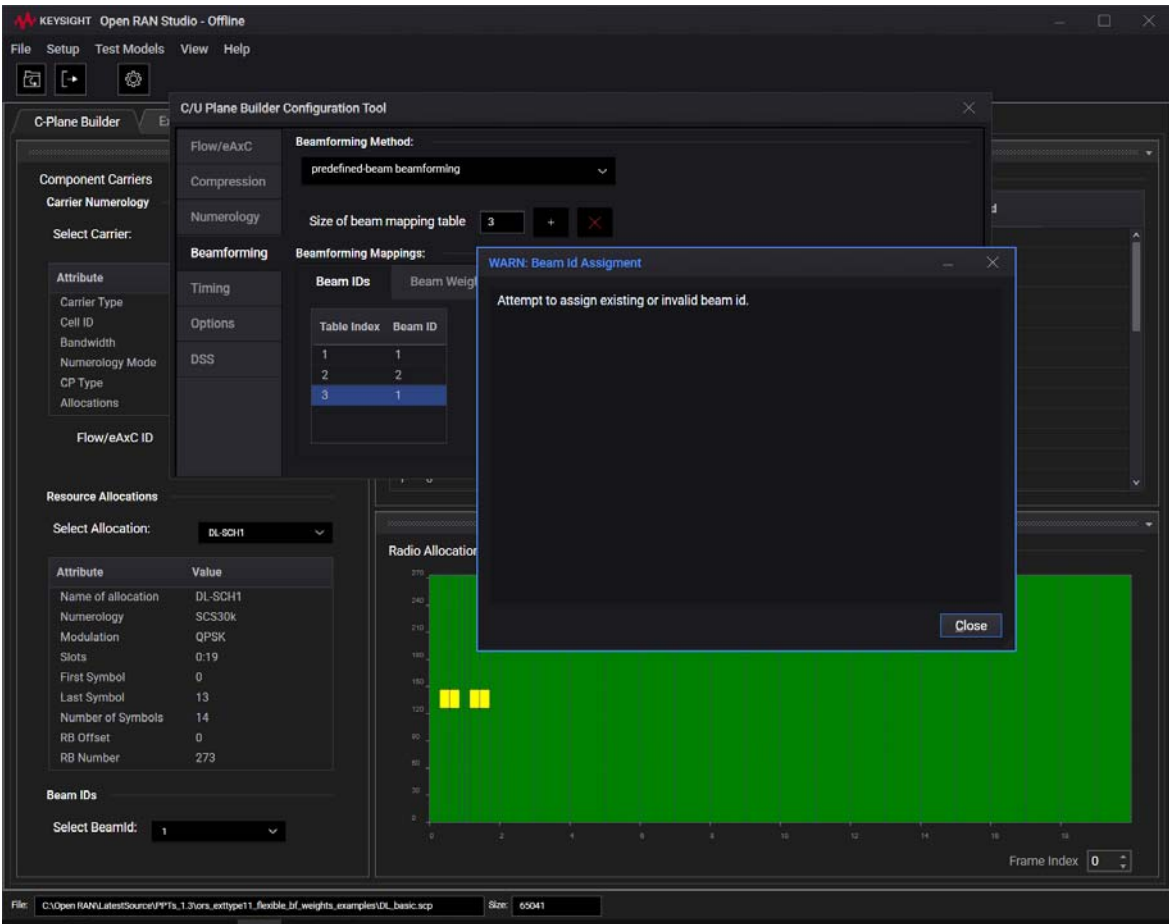

Figure 291 Warning prompt when existing Beam ID value is entered
- b* Entering an existing Beam Id value in another row is forbidden in the C/U Plane Builder Configuration Tool. If you attempt to do so, a warning is prompted, as shown in Figure 291, and the Beam ID value reverts to the previous value, when you close the warning dialog box.